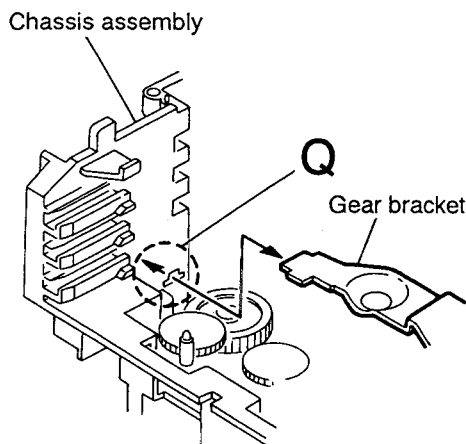

Fig.5-54
3. From the notch "Q section" on the chassis assembly fixing the edge of gear bracket, remove and take out the gear bracket (See Fig. 5-54).